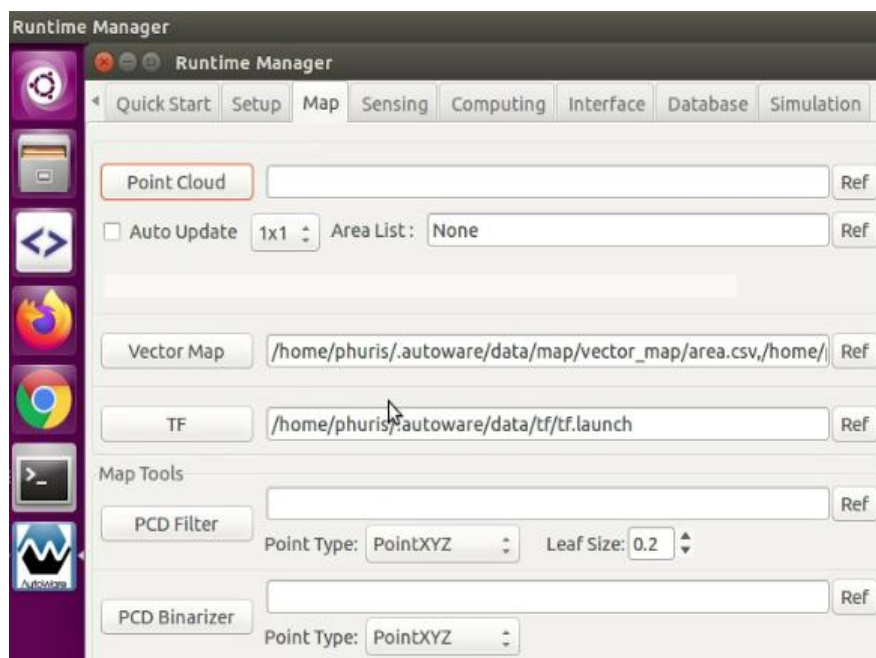

Figure 31: A screenshot of Map tab
Step 3: Next step is to setup the “Map” tab. The file paths used for Vector Map and TF can be seen on figure 31.